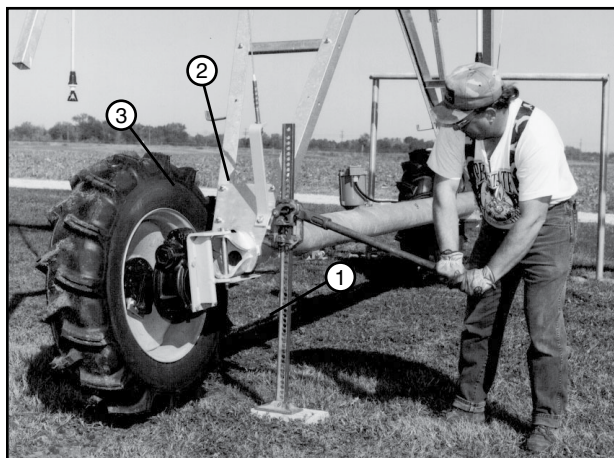

Figure 30-3 1. Jack
3. The wheels on each drive unit must be turned into the tow position. Use a jack to lift one side of the drive unit until the tire is off of the ground. See figure 30-3.